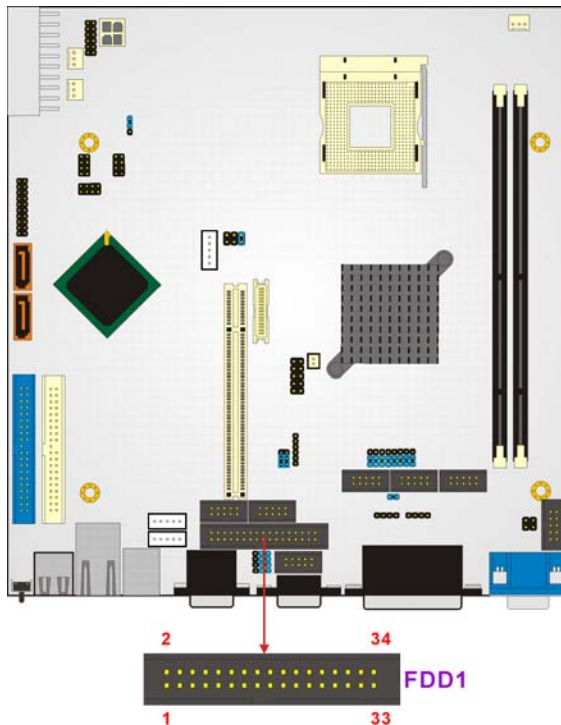

Figure 3-10: FDD Connector Location
- CN Location: See **Figure 3-10**